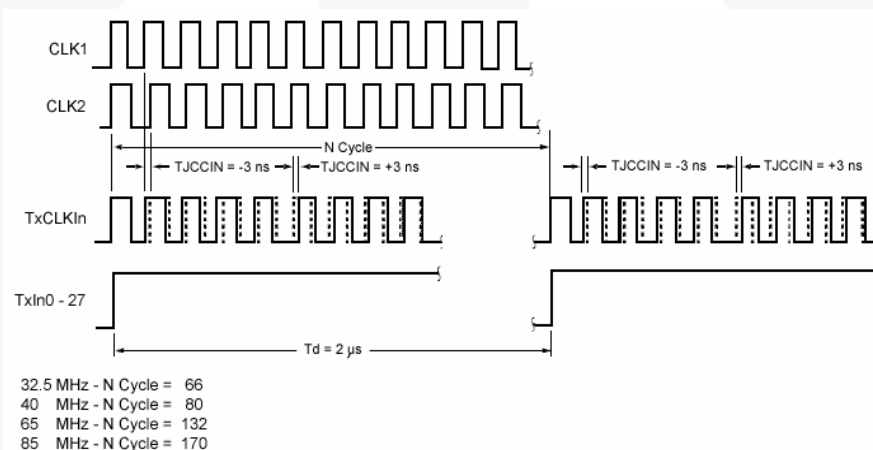

Figure 24. Timing Diagram of Transmitter Clock Input with Jitter
26. Test setup used considers no requirement for separation of RMS and deterministic jitter. Other hardware setup, such as Wavecrest boxes, can be used if no M1 software is available, but the test methodology in Figure 24 should be followed.